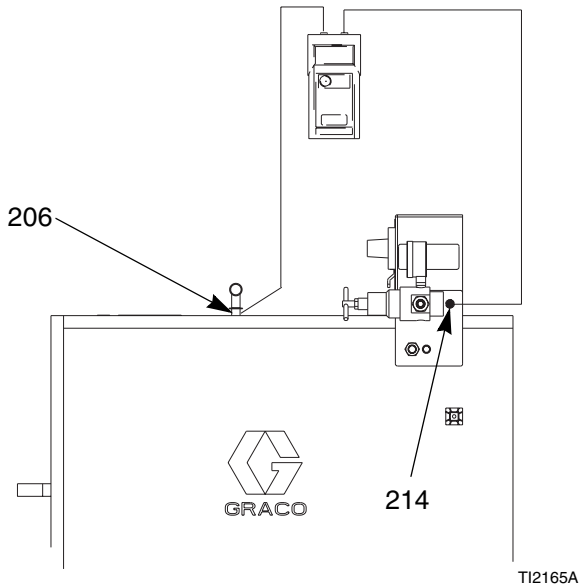

Fig. 22. Test Ground Strip Resistance
See FIG. 22.. Using an ohmmeter, measure the resistance between the latch housing (206) and the ground lug (214). The ground strip is grounded through the cart back to the ground lug. Resistance must be less than 100 ohms. If greater than 100 ohms, replace the ground strip (240).